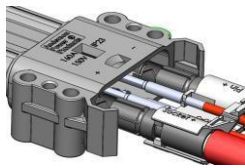

Figure 6
7. Install the fully assembled contact holder into the socket housing (Figure 6):